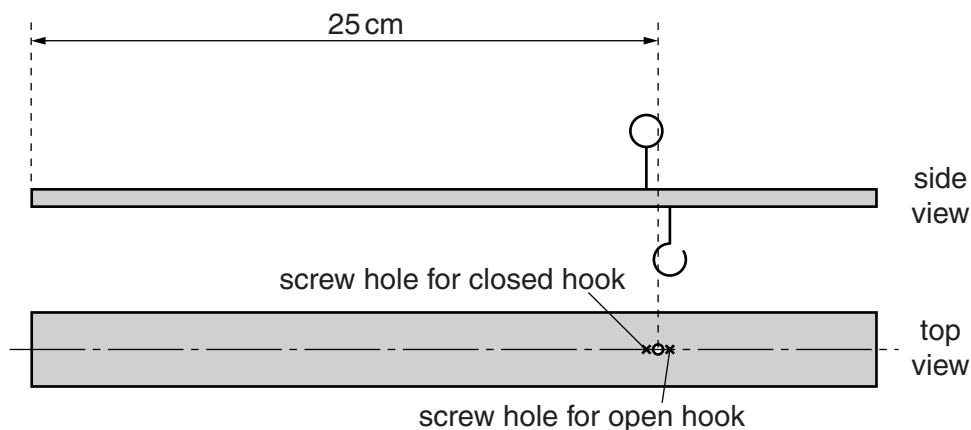

Fig. 1.1
- 1 The hooks should be attached to the wooden strip as shown in Fig. 1.1.
Fig. 1.1 shows the central position of the point at which the hooks are inserted into the wooden strip. The hooks may have to be slightly offset to avoid both hooks going through the same hole.